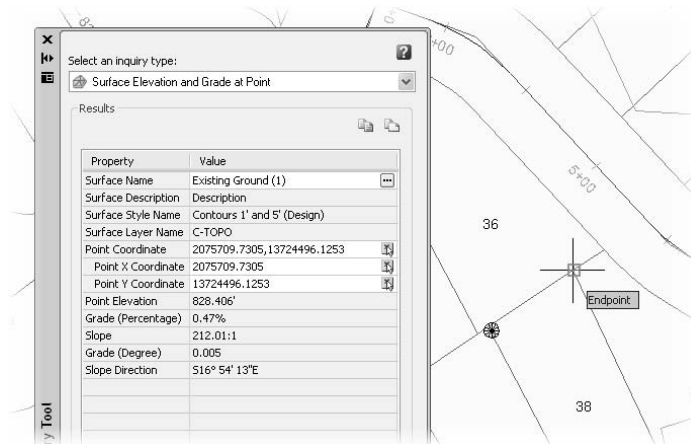

Figure 2.7
5. Click the Select on Screen button in the Point Coordinate row and snap to the end-point of the Lot 37 lot line as shown in Figure 2.7.